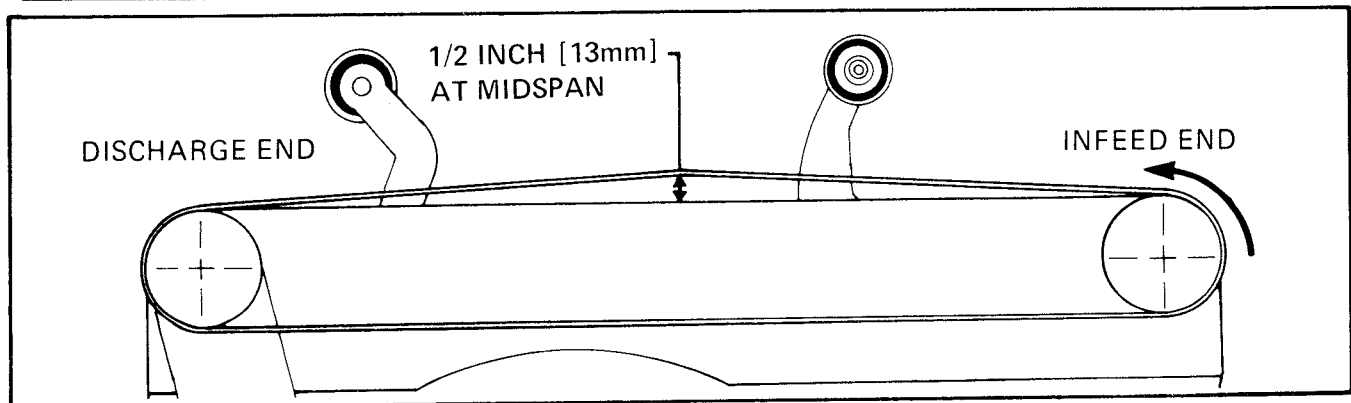

FIGURE 19B - BOX DRIVE BELT TENSION ADJUSTMENT
Step 1. Tension is obtained by uniform tightening of the adjustment screws so that a moderate pulling force of 7 to 8 lbs. [3.2 to 3.6 kg] applied at the midspan will deflect the belt 1/2 inch [13 mm]. Refer to Figure 19B